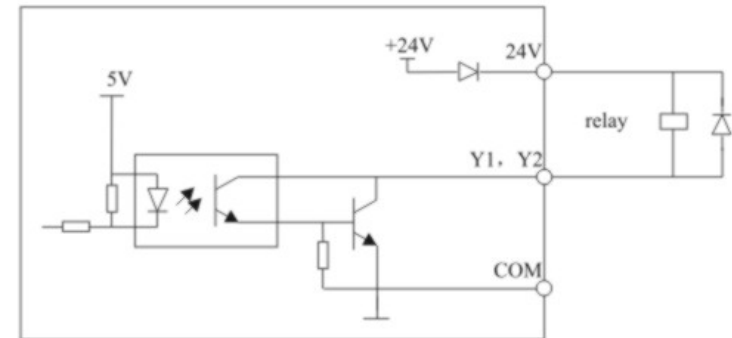

Fig. 3-10 Multifunction output terminal connection
1) Multifunction output terminals Y1 and Y2 are adaptable to the 24V power of frequency converter. The wiring method is shown in Fig 3-10.